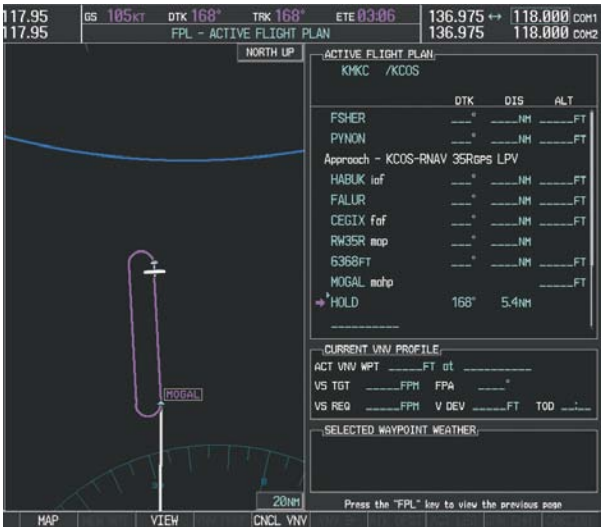

Figure 7-51 Hold Established
- 27) The aircraft maintains 10,000 feet while following the magenta line through the hold as in Figure 7-51.